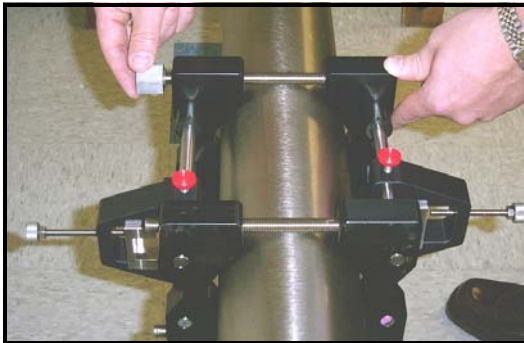

Figure 3-9: Installing Nuts onto the Fixture
3. Install the four nuts onto the threaded rods with the convex side of the nut facing the fixture. Hand tighten the nuts on each V block evenly, as shown in Figure 3-9 below. Do not use a cross tightening pattern on the four installation nuts.